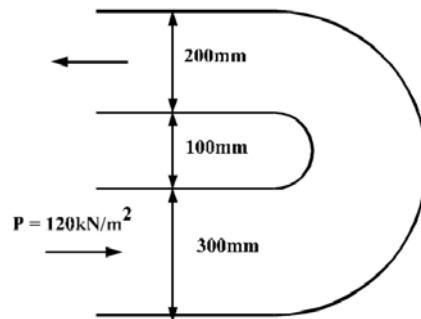

Figure 5: Water flows along a circular pipe
- [b] Water flows along a circular pipe and is turned vertically through 180° by a reducing bend as shown in Figure 5. The rate of flow in the pipe is 20 litres/s, the pressure measured at the entrance to the bend is 120 kN/m^3 and the volume of fluid in the bend is 0.1 m^3 . What is the magnitude and direction of the force exerted by the fluid on the bend? Ignore any friction losses.